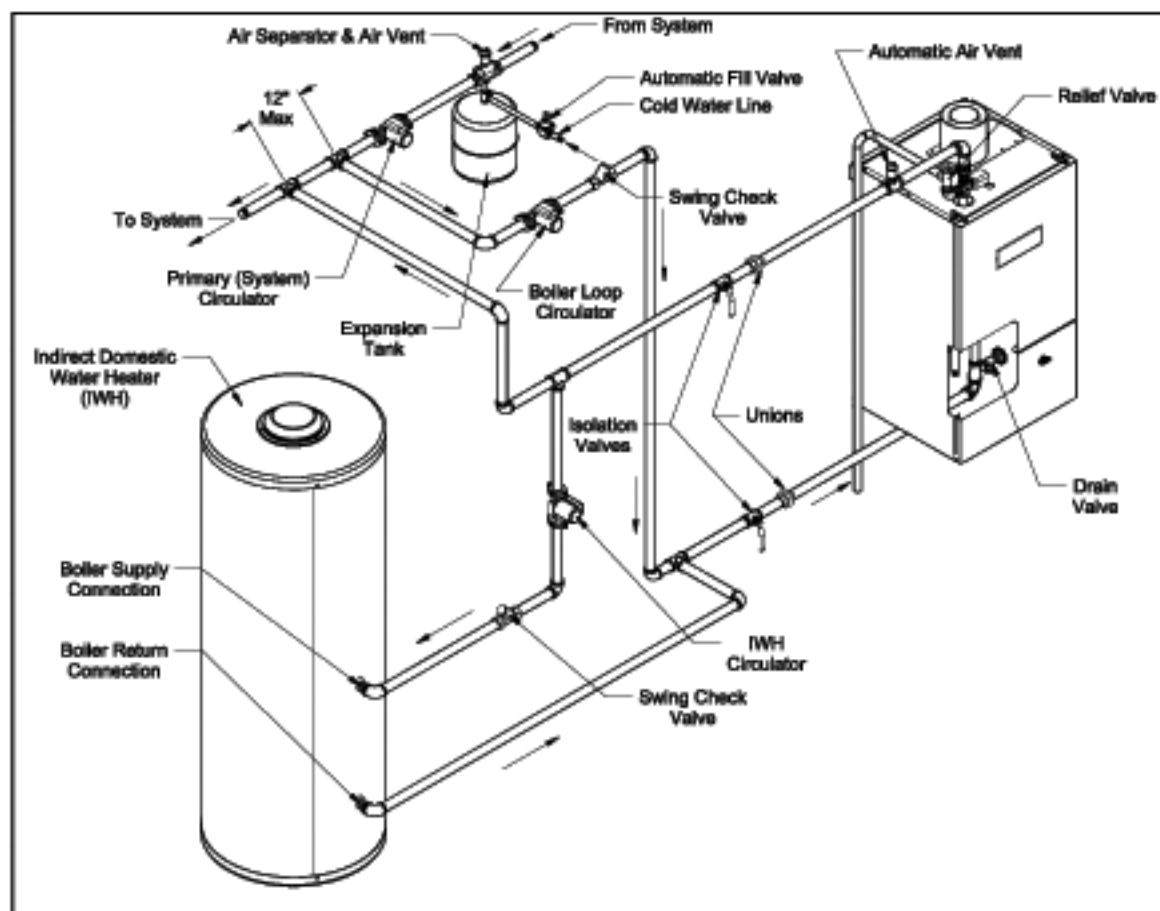

Figure 9.3: Piping Method #1 - Heat + Indirect Water Heater
This method can be used in heat-only applications as shown in Figure 9.2 or with an indirect water heater as shown in Figure 9.3. This method relies on primary/secondary pumping to ensure that the required flow is always maintained through the boiler. In this system, the flow rate through the boiler is completely independent of the flow rate through the heating system. Use the following guidelines to ensure that the boiler will have the required flow shown in Table 9.1 regardless of the flow in the heating system.
*Example - Assume that a BWC120 is to be installed in a heating system along with a Crown MS-40 indirect water heater. A total of 15 ft of straight pipe will be installed between the boiler and the primary loop. A total of 20 ft of straight pipe will be installed between the boiler and the indirect water heater. Fittings are arranged as shown in Figure 9.3. A 9.0 GPM flow is required in the boiler loop. The MS-40 requires a flow rate of 8 GPM and has a head loss of 3.0 ft.*